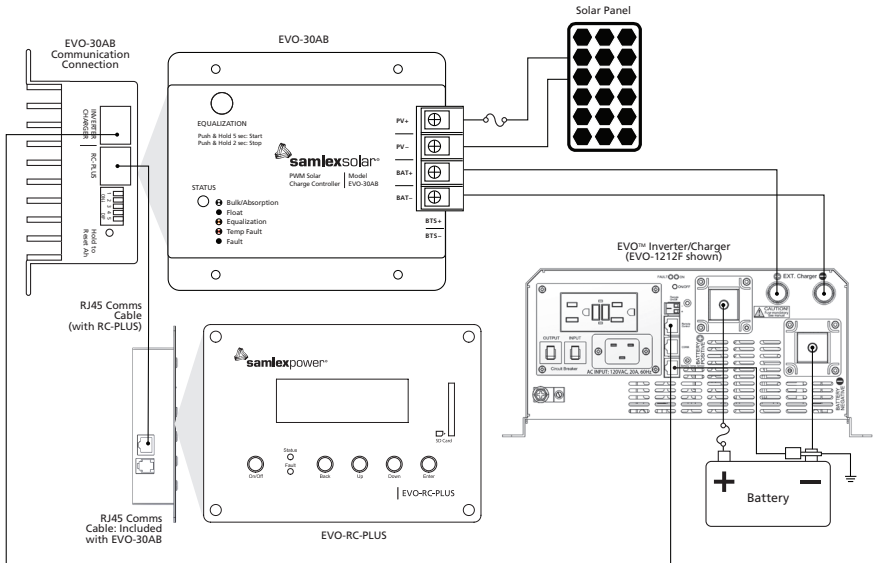

Fig 6.4 EVO-30AB with EVO-RC-PLUS and EVO™ Inverter/Charger Wiring Diagram
3. Install the EVO-30AB as described in Section 6.1 to 6.3 of this manual, but making the battery connection to the “External DC Charger connection on the EVO™ Inverter/Charger. See Fig 6.4 below.
5. Connect the communications cable between the EVO™ Inverter/Charger to the EVO-30AB as shown in the Figure 6.4 below.
6. Connect the communications cable between the Charge Controller and the EVO-RC-PLUS as shown in Figure 6.4 below.